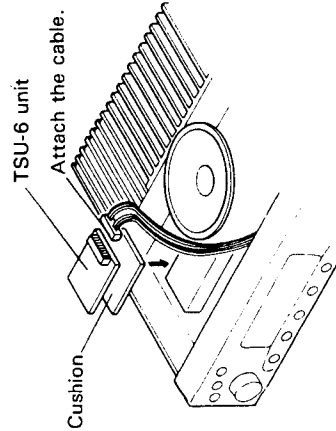

Fig. 2
3. Remove the backing from the small cushion provided with the TSU-6 and attach it to the back of the TSU-6 as shown in Fig. 2.
4. Attach the cable from TSU-6 as shown in Fig. 2.
3. Remove the backing from the small cushion provided with the DTU-2 and attach it to the back of the DTU-2 as shown in Fig. 2
5. Attach the cable from DTU-2 as shown in Fig. 2.